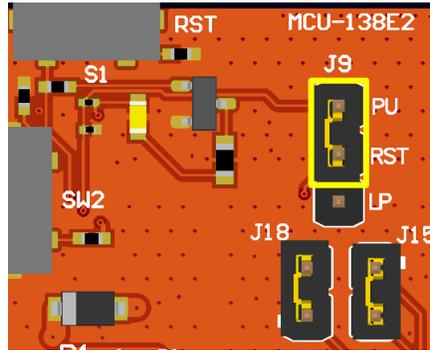

Figure 2-13. nReset Pullup
The LP-EM-CC35X1 gives the option to route the Reset line to the LaunchPad header (pin 16) to control the reset line externally. To route the nRESET line to the LaunchPad header pin instead of the default pullup, jumper J9 needs to be placed on the bottom two pins. J9 is in the pullup (PU) configuration, therefore, the nRESET line is pulled up when power is supplied to the board, as shown in Figure 2-13.